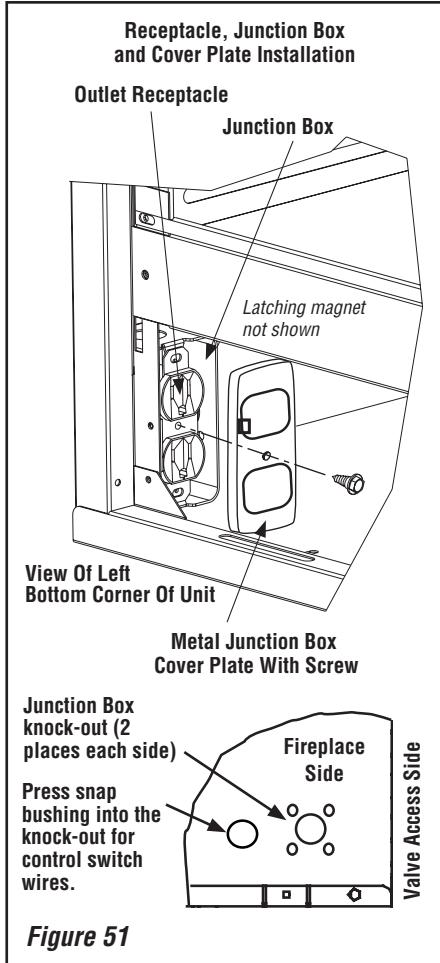

Figure 51
NOTE: The junction box can be installed in any of the 4 outside corners of the control compartment (outlet installed in front left corner is shown in Figure 51). If an optional blower is to be installed place the junction box to the right of the valve in the front corner.
4. After the receptacle/junction box wiring is complete, install the provided metal junction box cover plate (see **Figure 51, page 30**).